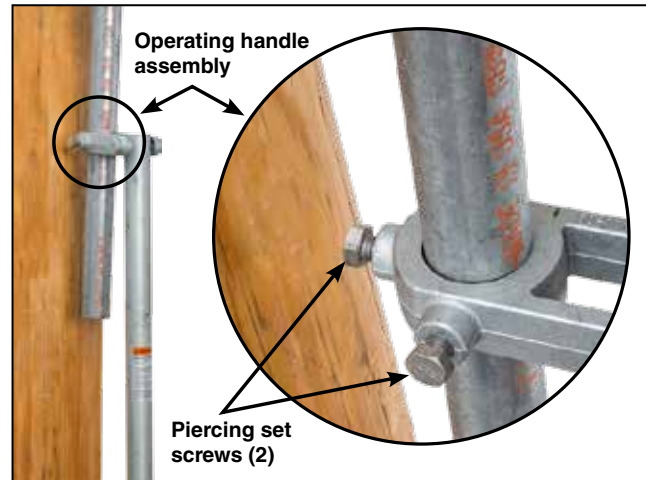

Figure 20. Fasten the operating handle assembly.
STEP 19. Back the piercing set screws out of the handle yoke and slide the handle assembly up the pipe until it is in the location indicated on the erection drawing. There should be 3 to 8 inches of operating pipe below the operating handle assembly. See Figures 20 and 21. Tighten the piercing set screws on the operating handle assembly enough to hold the handle in place. DO NOT pierce the vertical operating pipe.